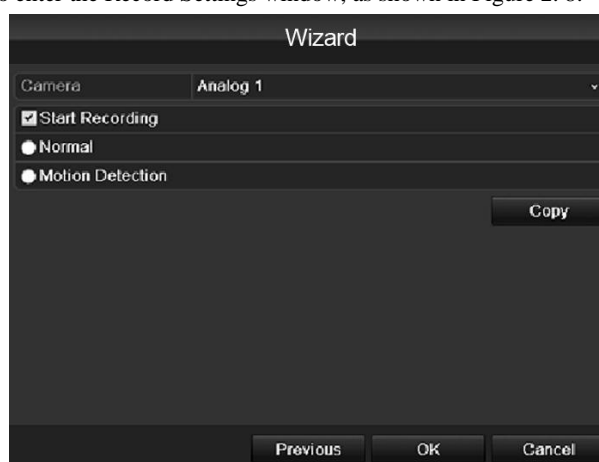

Figure 2.8 Record Settings
9. Click **Next** button to enter the Record Settings window, as shown in Figure 2.8.